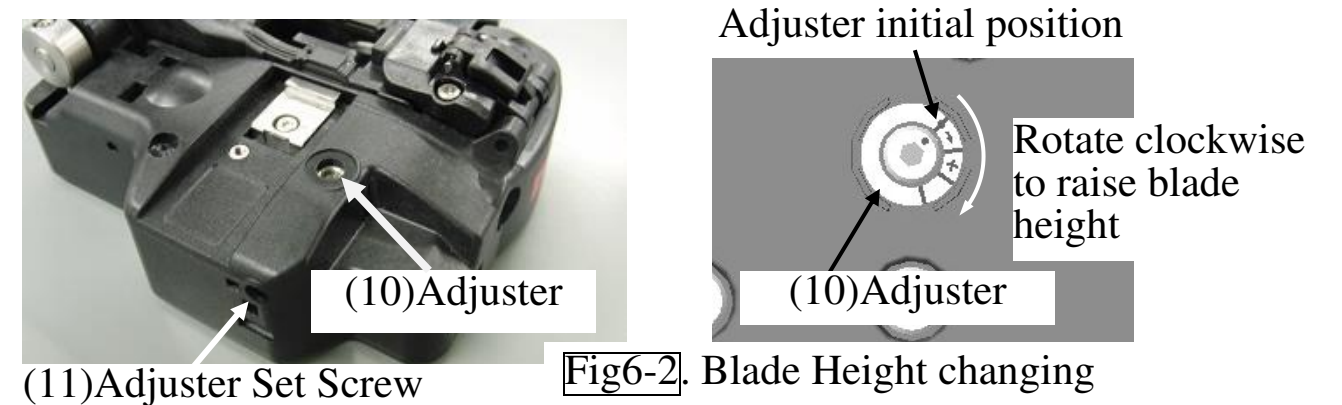

Fig6-2. Blade Height changing
- It is locked by the Adjuster Set Screw(11) to prevent turning. Fig.6-2.
- Loosen the set screw with the HEX-01 and then rotate the Adjuster(10) one mark. Do not rotate more than one mark at one time.
2. 添付の六角レンチを使いアジャスタ(10)を固定しているアジャスタ固定ネジ(11)を緩めます。(図 6-2)